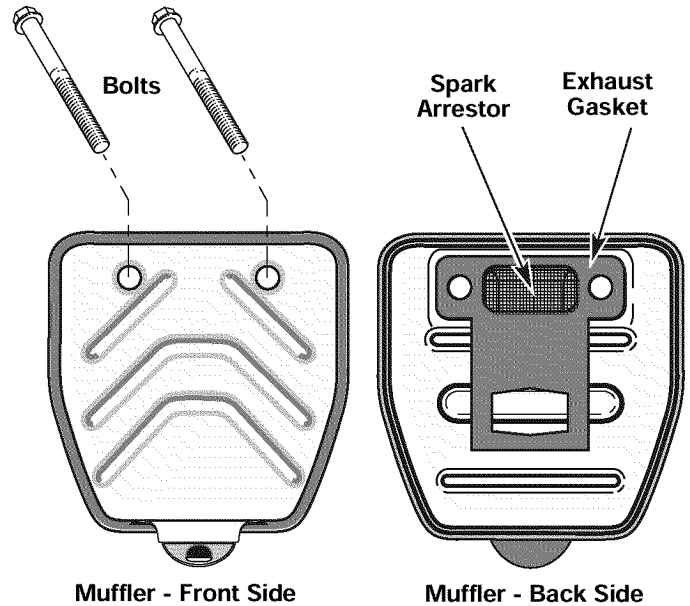

Fig. 32
2. Locate muffler front and the two (2) bolts securing it to the engine (Fig. 32). Remove the two (2) bolts using a flatblade screwdriver or 5/16-inch socket or nut driver. Pull muffler off of the engine.
3. Turn muffler over to the back side and locate the exhaust gasket. Remove the muffler gasket from the muffler (Fig. 32).
7. Place the exhaust gasket against muffler's back side. Align the gasket bolt holes with the bolt holes in the muffler. While holding exhaust gasket in place, insert the bolts into the muffler's front side (Fig. 32).